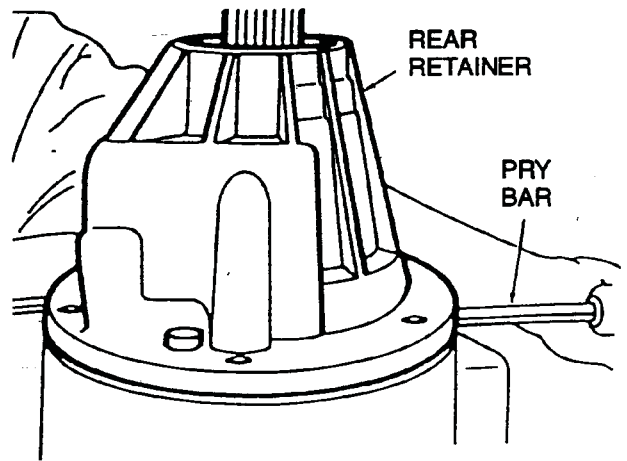

Fig. 4-7 Remove Rear Retainer
4. Remove the rear retainer (Fig. 4-7). Use two pry bars or screwdrivers to loosen the retainer. Position the bars/screwdrivers in the retainer slots.